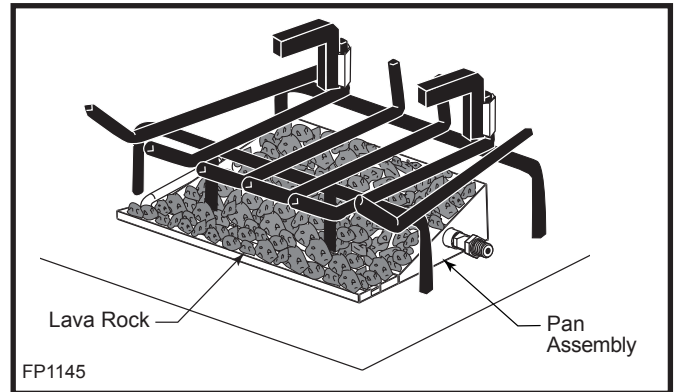

Fig. 8 Lava rock placement.
1. With burner pan and grate in place, open the bag of lava rock and spread it evenly across the pan assembly to the top of the pan assembly. (Fig. 8)